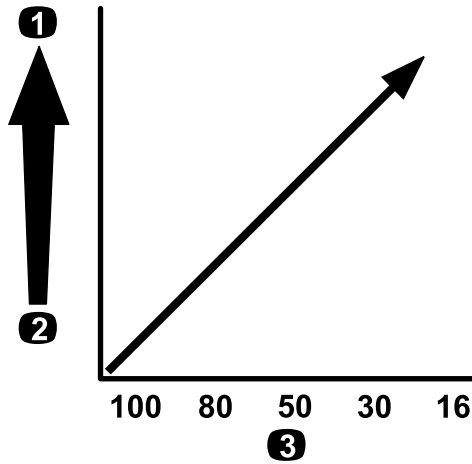

**Figure 22**
**Important:** When you spray with higher viscosity (thicker) chemical products or solutions with wettable powders, you may need to use a coarser screen mesh for the optional pressure-filter; refer to Figure 22.